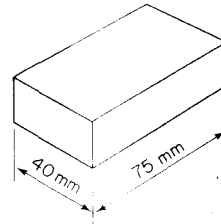

Fig. 15
34. The rectangular block shown in Fig. 15 is to be machined on the top face. If a shaping machine is used the most practical economic length of stroke would be